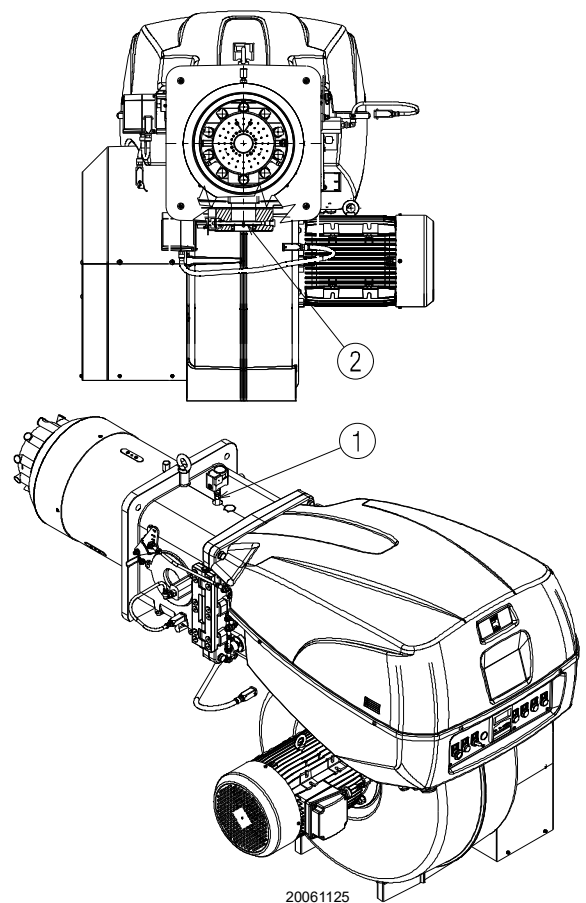

Fig. 19
Gas pressure measured at the test point 1) (Fig. 19), with:
Pressure loss at gas butterfly valve 2)(Fig. 19) with maximum opening: 90°.
- subtract the combustion chamber pressure from the gas pressure measured at test point 1)(Fig. 19).
Gas pressure at test point 1)(Fig. 19) = 59.2 mbar
To calculate the required gas pressure at test point 1)(Fig. 19), set the maximum modulating output required from the burner operation:
- read, on the right (column 1), the pressure at the test point 1)(Fig. 19).
Pressure required at test point 1)(Fig. 19).